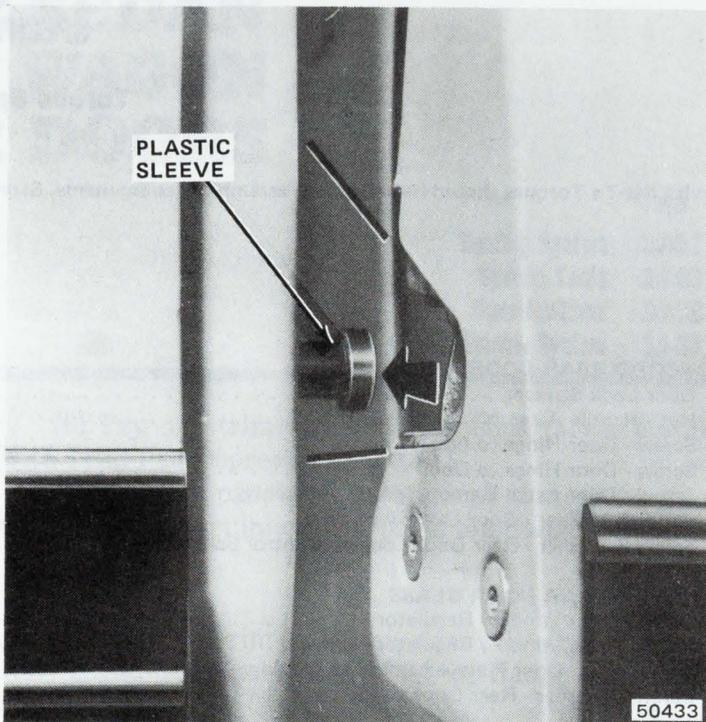

Fig. 3J-61 Lock Striker Alignment
- (1) Remove door trim panel.
- (2) Remove water dam paper.
- (3) Raise window to closed position.
- (4) Disconnect outside handle-to-door latch link at handle (fig. 3J-57).
(5) Remove attaching nuts from handle assembly and remove assembly.
(6) To install, position handle assembly and secure with attaching nuts. Tighten nuts to 40 inch-pounds (4.5 Nm) torque.
- (7) Connect handle-to-door latch link to handle.
- (8) Install water dam paper.
- (9) Install door trim panel.
- (1) Determine proper striker alignment (fig. 3J-61).